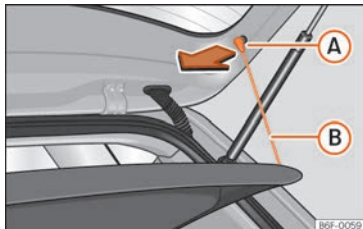

Fig. 143 In the boot: removing and installing the shelf.
- Detach the cord loops >>> Fig. 143 (B) from their hooks (A).
- Attach the securing straps >>> Fig. 143 (B) onto the rear lid.